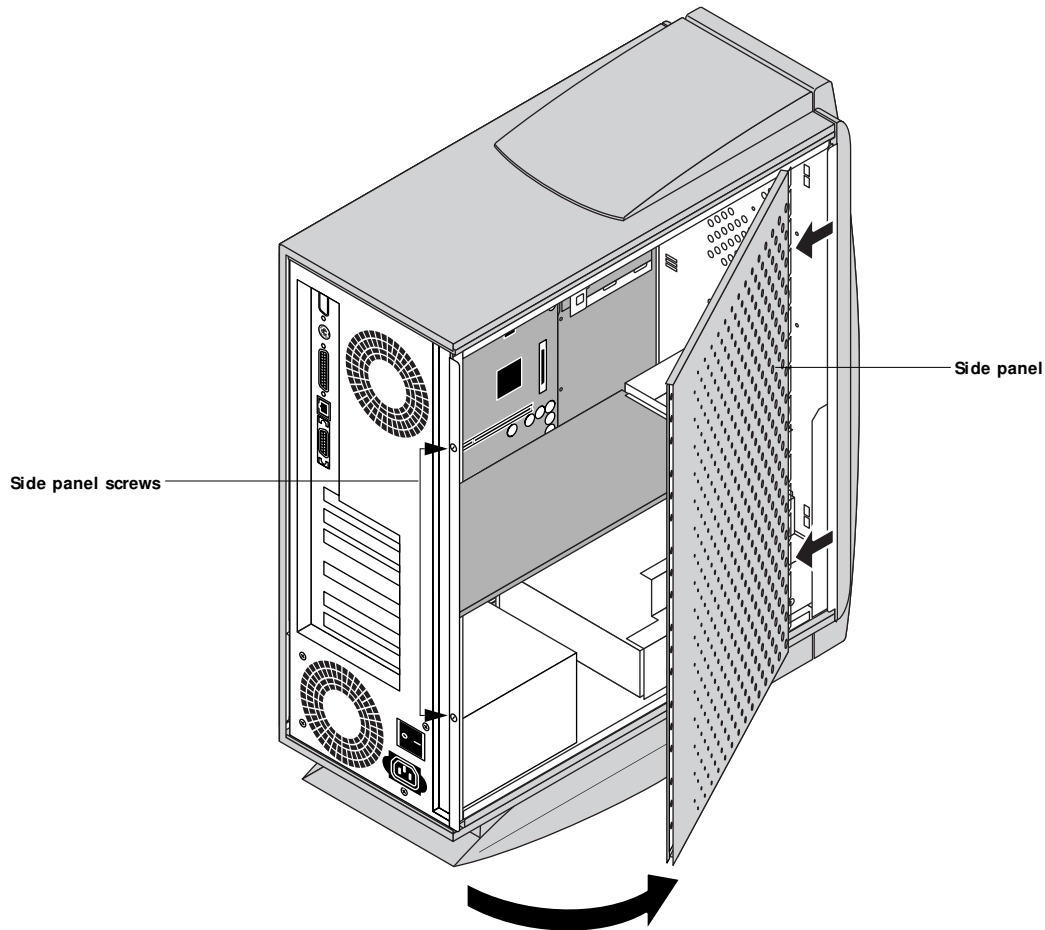

FIGURE 4-2 Removing the Fiery ZX side panel
3. **Lift off the side panel (see Figure 4-2 on page 4-4).**